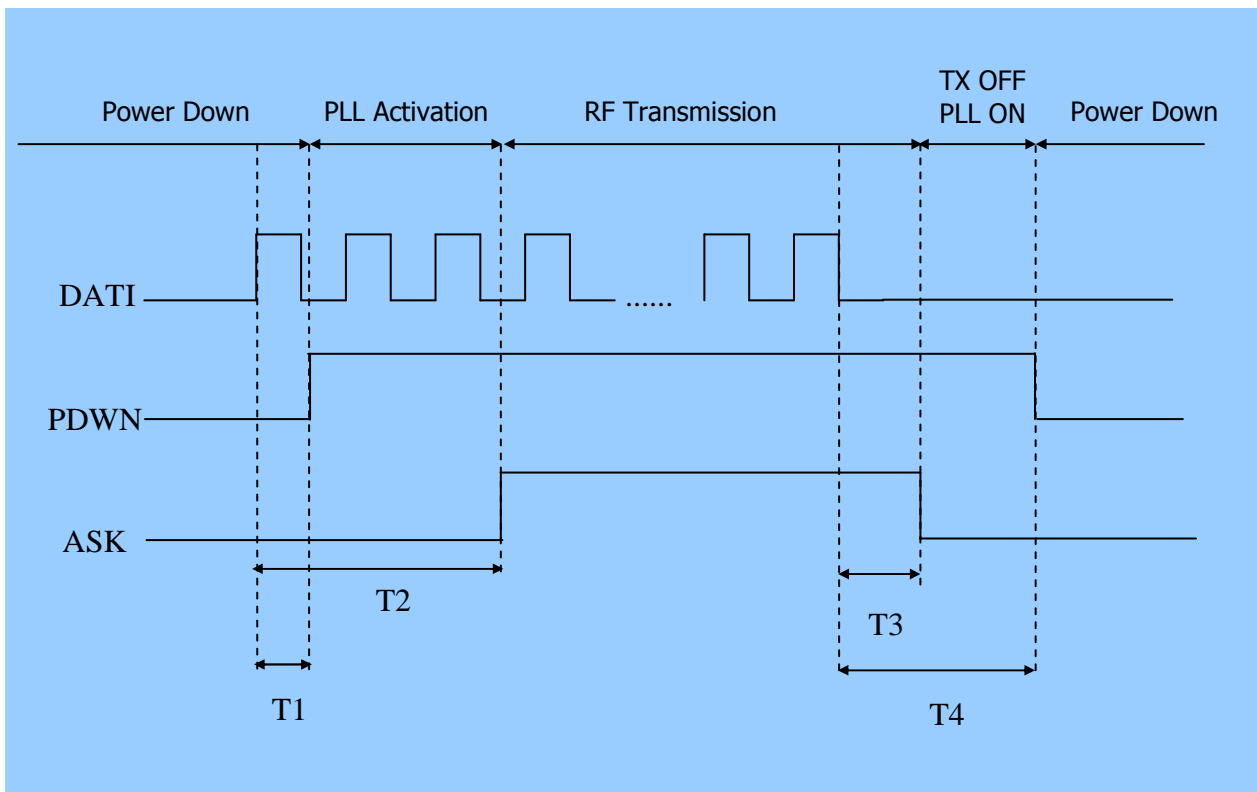

Fig.2
NOTE: only the signal DATA is available to pin 1 of the module, while the signals and ASK PWDN highlighted in the diagram time (Fig 2) are internal to the module, thus not available from the pins of the module itself, have been incorporated for the sole purpose of clarifying the timing and the sorption of the various stages of operation
1. A **whip** antenna, 16,5 mm long and approximately 1 mm dia, brass or copper wire made, must be connected to the RF output of the transmitter (pin 8), (see fig. 2).